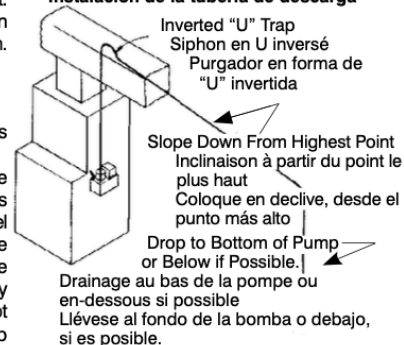

Fig. 3
2. The outlet piping should be flexible tubing or pipe (3/8" I.D. maximum to prevent excessive flow back to unit). From condensate unit, extend discharge piping straight up as high as necessary (Fig. 3). Do not extend this line above the head/GPH of the particular model being installed. From this high point, slope discharge line down slightly to a point above drain area; then turn down and extend to a point below or approximately level with the bottom of the condensate unit. This will give a syphoning effect which will improve efficiency of the condensate unit and will, in most cases, eliminate the need for a check valve. If it is not possible to slope discharge line down, make an inverted "U" trap directly above the pump at the highest point.